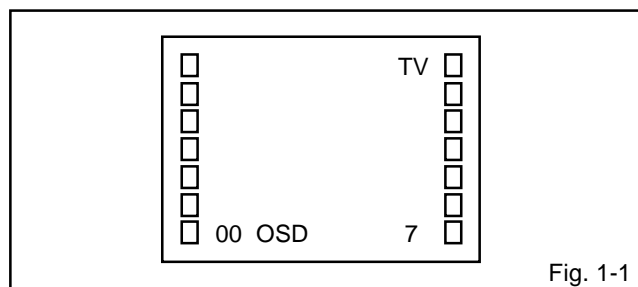

Fig. 1-1
2. Press the VOL. DOWN button on the set and the Channel button (**9**) on the remote control for more than 2 seconds to appear the adjustment mode on the screen as shown in **Fig. 1-1**.
5. Activate the adjustment mode display of **Fig. 1-1** and press the channel button **(02)** on the remote control to select "CUT OFF".